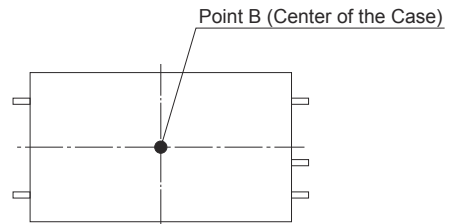

Fig.7.2 Temperature Measuring Point in the case of Forced Air Cooling (Upper Surface of the Case)
② SUC1R5
■ In the case of forced air cooling (1m/s), please have sufficient ventilation to keep the temperature of point B in Fig.7.2 at 95°C or below.